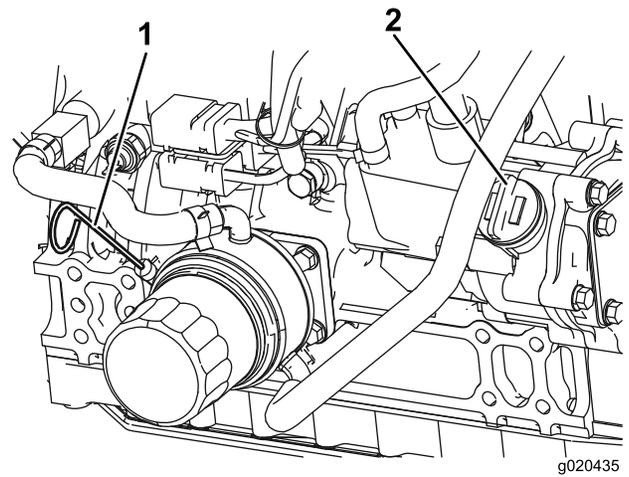

Figure 14
3. Remove the dipstick, wipe it clean, install the dipstick into the tube, and pull it out again. The oil level should be between the full and add marks (Figure 14).
4. If the oil level is low, remove the fill cap (Figure 14) and add oil until it is between the full and add marks. **Do not overfill.**